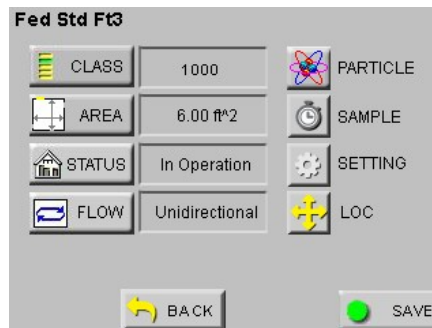

Figure 5-78 Reports Set Up Screen
- Press BACK to return to the main REPORTs screen and SAVE to save the configuration in the Recipe database. See Figure 5-78.